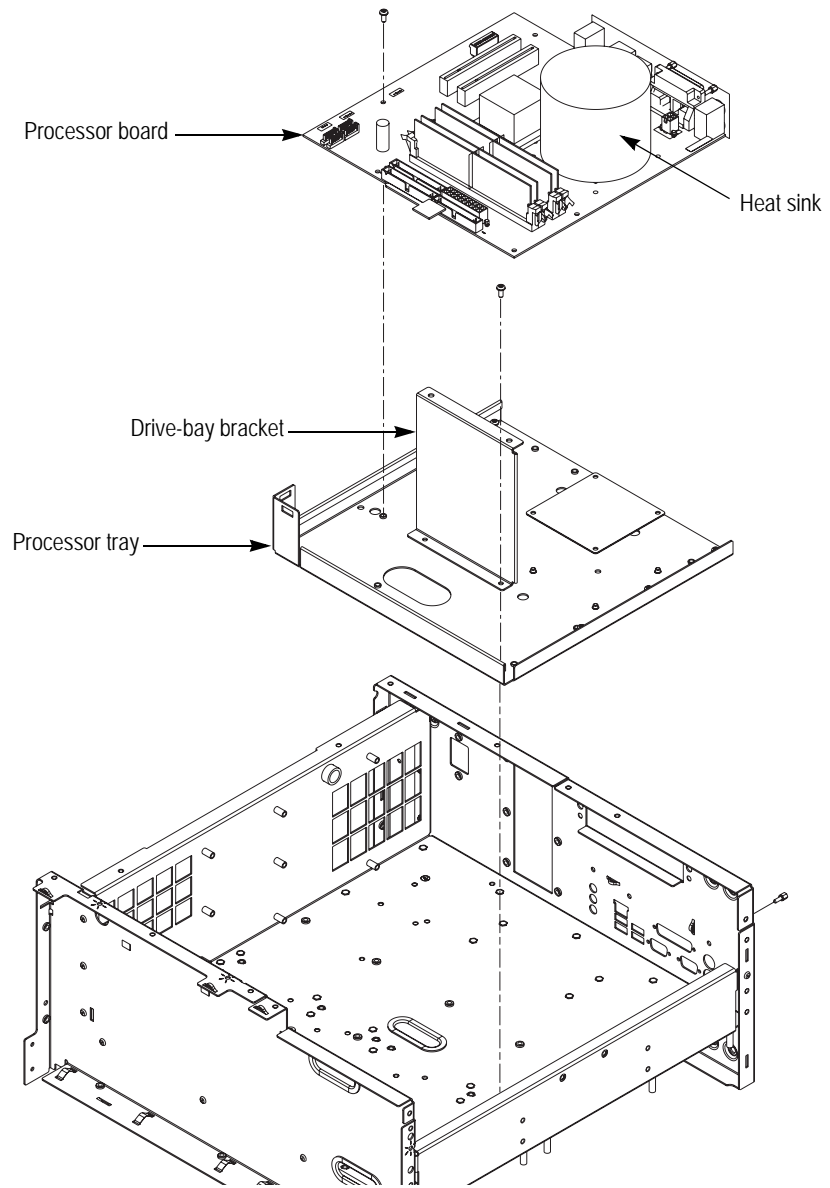

Figure 4-10: Processor board removal
**Removal.** To remove the Processor board, refer to Figure 4-10 and follow these steps: